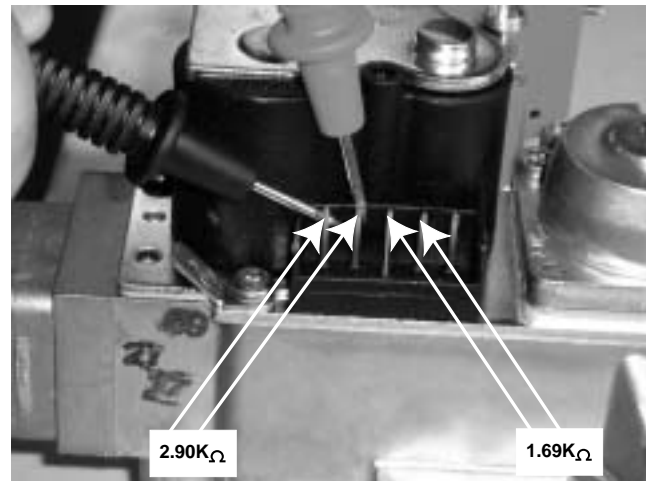

Fig. 27
- Check and adjust if necessary the **Outlet** pressure to 1.5 mbar (G20) and 2.25 mbar for Groningue(G25) (figure 27).